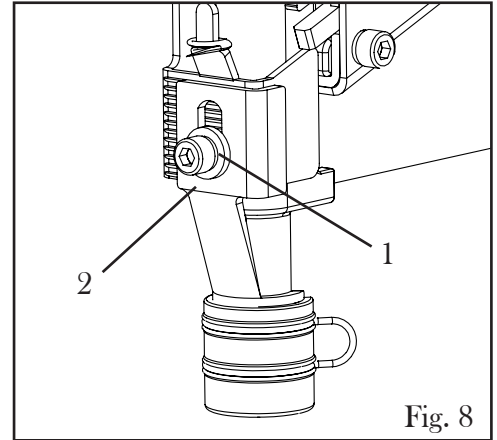

Fig. 8
ADJUSTING THE DRIVING DEPTH (Fig. 8)
1. Loosen the depth lock screw (Fig. 8 - 1) using the hex key.
2. Slide the safety bracket (Fig. 8 - 2) to adjust the firing depth. Sliding the bracket upward increases the driving depth and sliding the bracket downward decreases the driving depth. Retighten the depth lock screw.
2. Hold the nailer upright on the workpiece and position the safety bracket where the fastener will be driven (Fig. 8).